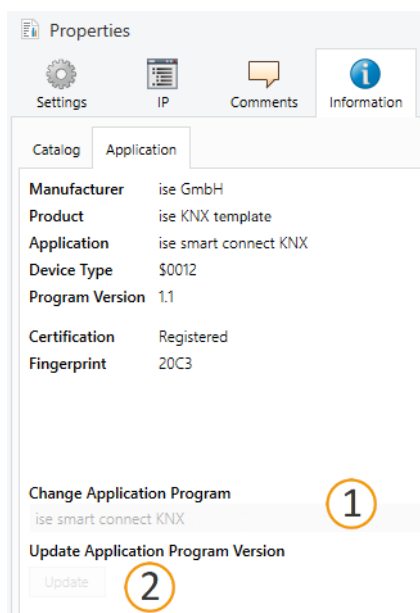

Figure 21: Updating the application program
5. Select the <<Update>> button under the item <<Update application program version>> (see figure 21, item 2)
○ If you change the value under <<Change application program>> (see figure 21, item 1), user-defined settings such as links to group addresses will be lost.